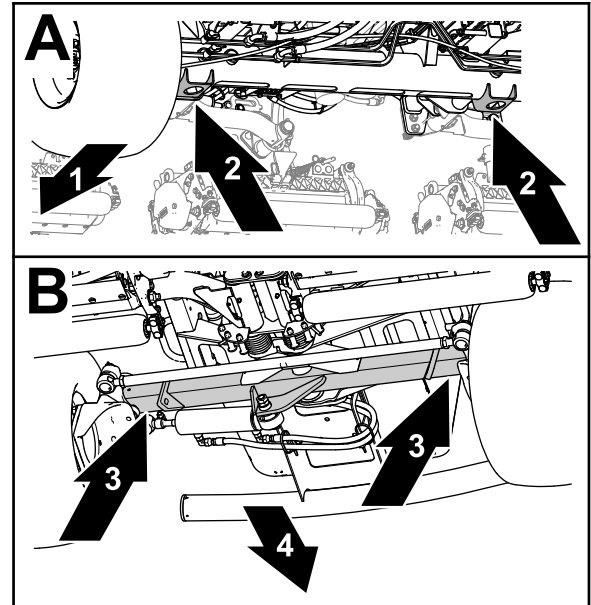

Figure 106
- Front—the jack brackets of the front-axle tube (Figure 106).